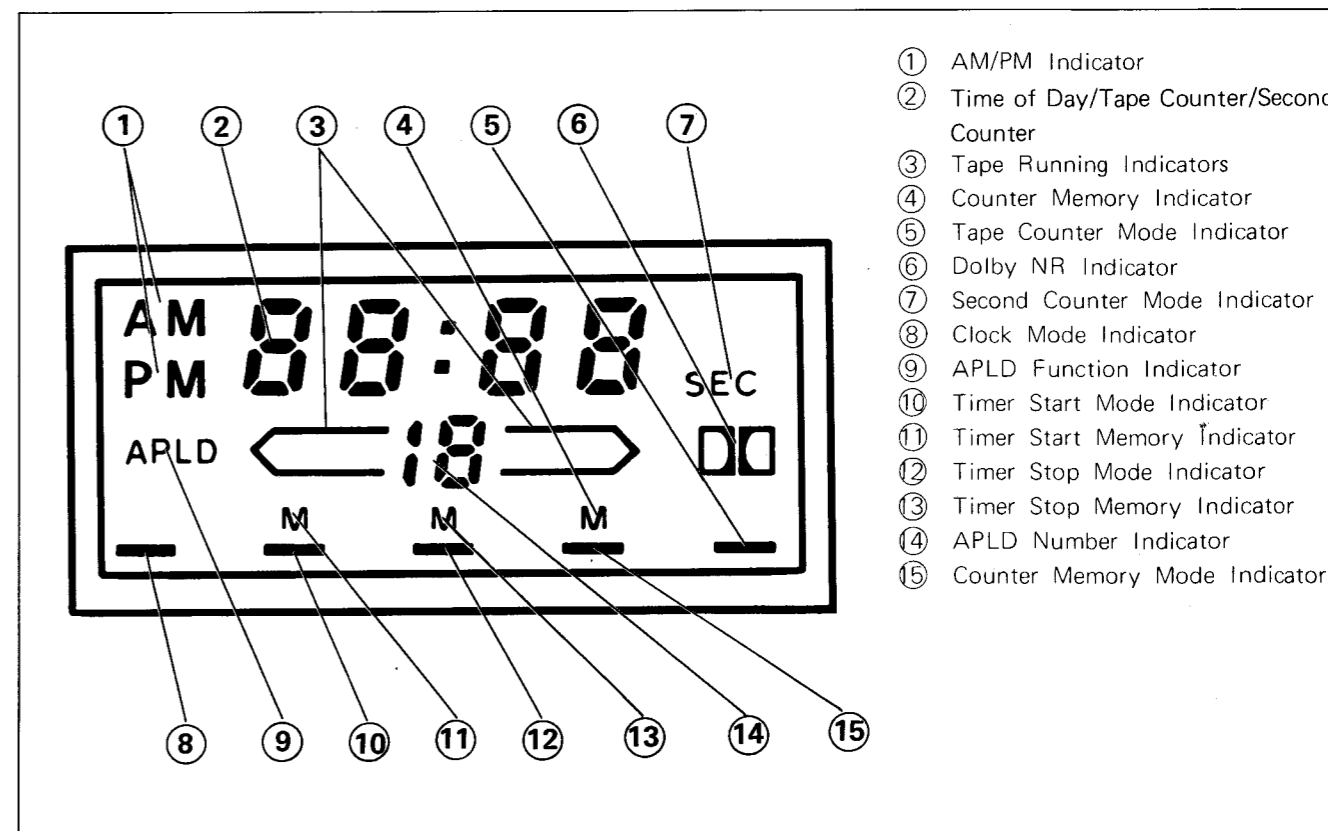

Figure 16
- ① Timer Start Key
- ② Clock Key
- ③ APLD Key
- ④ Second Counter Key
- ⑤ Number Input Key
- ⑥ 12/24-Hour Display Key
- ⑦ AM/PM Display Key
- ⑧ Clock Zero Key
- ⑨ LCD (See Figure 16).
- ⑩ Counter Memory Key
- ⑪ Tape Counter Key
- ⑫ Timer Stop Key
- ⑬ Clear Key
- ⑭ Direct Memory Key
- ⑮ Set Key
- ⑯ Clock Start Key